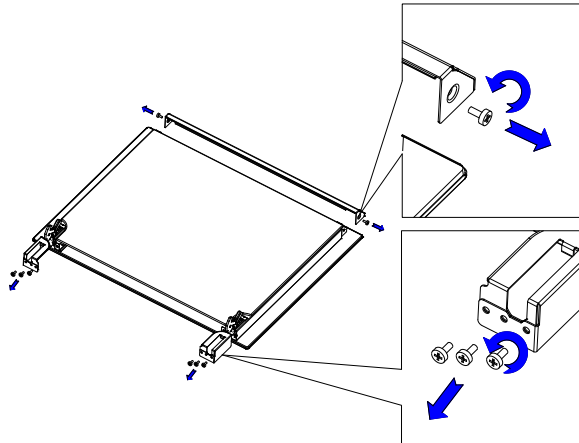

Figure 2
1. Remove the top (shutter) by screwing down bolts on both sides. (See figure 2).
2. Screw down other 6 bolts in the opposite top on both sides of door. (See figure 2).